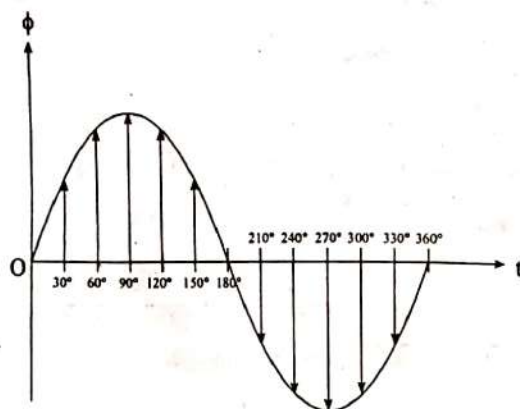

Fig. 2 Pulsating magnetic field in the air gap.
- When a 1- ϕ ac voltage is supplied to the 1- ϕ stator winding, it will not produce a rotating magnetic field like in the case of 3- ϕ induction motors rather it will produce an alternating magnetic field (pulsating magnetic field) as shown in Fig. 2.